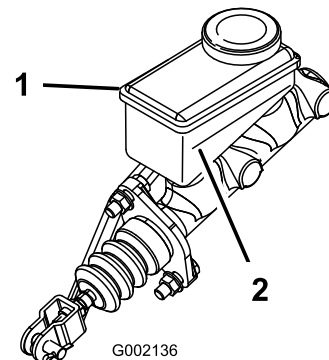

Figure 53
5. Look at the outline of the fluid level at the side of the reservoir (Figure 53).
- B. Add DOT 3 brake fluid to the reservoir until the fluid level is above the Minimum line (Figure 53).